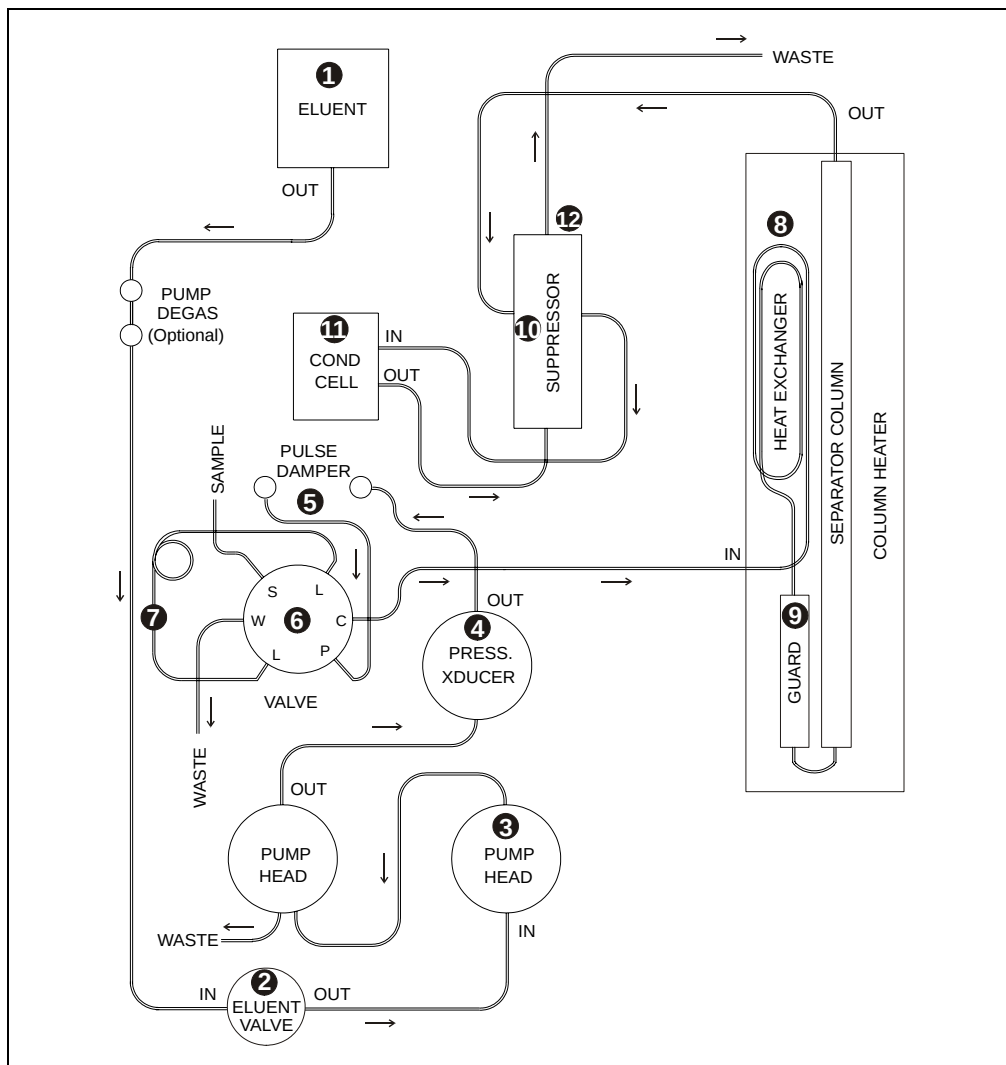

Figure 5-7. ICS-1500 Flow Schematic
2. Follow the ICS-1500 flow schematic in Figure 5-7 and work backward through the system, beginning at the suppressor **Regen Out** port. One at a time, loosen each fitting and observe the pressure. The connection at which the pressure drops abnormally indicates the point of restriction.